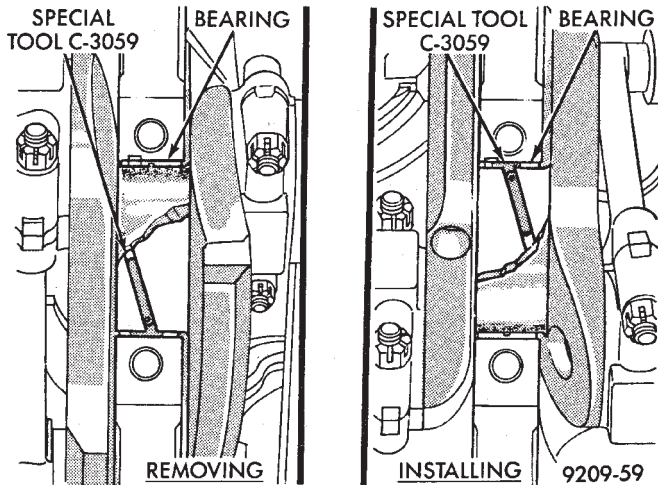

Fig. 89 Removing and Installing Upper Main Bearing With Special Tool C-3059
(1) Remove oil pan, pick-up tube, and windage tray. Refer to procedures outlined in this section. Identify bearing caps before removal.
(2) Remove bearing caps one at a time. Remove upper half of bearing by inserting Special Main Bearing Tool C-3059 (Fig. 89) into the oil hole of crankshaft.
- (1) Lubricate main bearing with clean engine oil.
- (2) Start bearing in place, and insert Main Bearing Tool C-3059 into oil hole of crankshaft (Fig. 89).
- (3) Slowly rotate crankshaft counterclockwise sliding the bearing into position. Remove Special Main Bearing Tool C-3059.